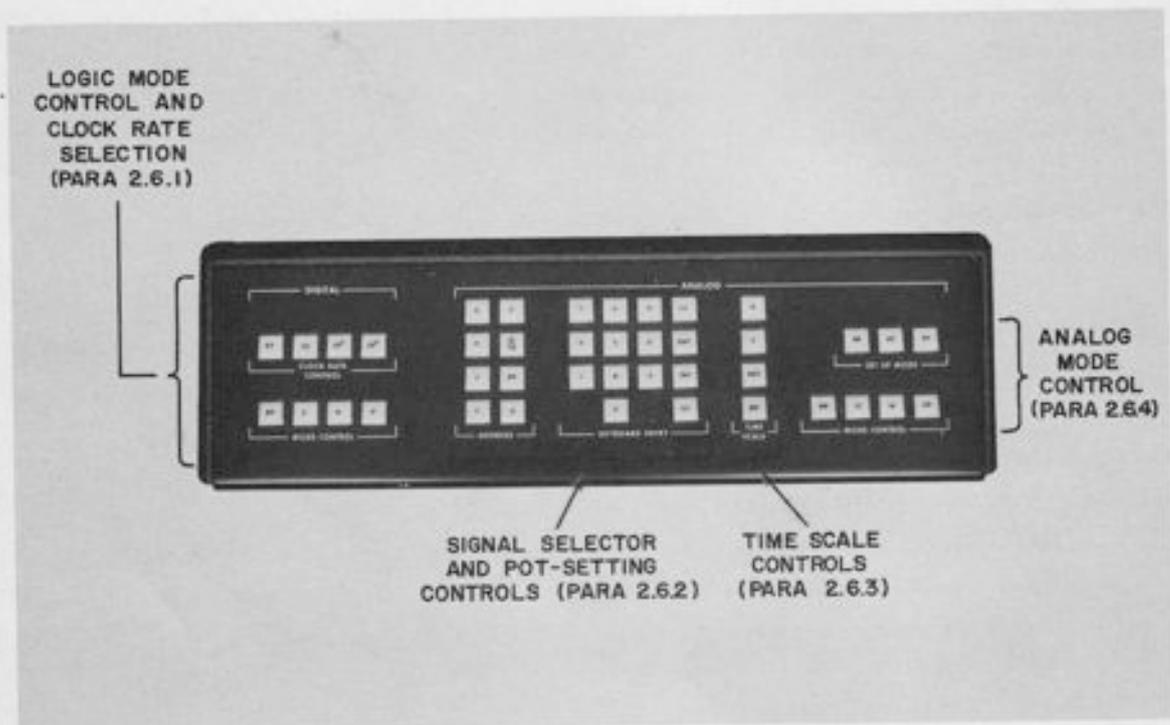

Figure 2.4. The Control Keyboard
2.6 THE CONTROL KEYBOARD (Figure 2.4)